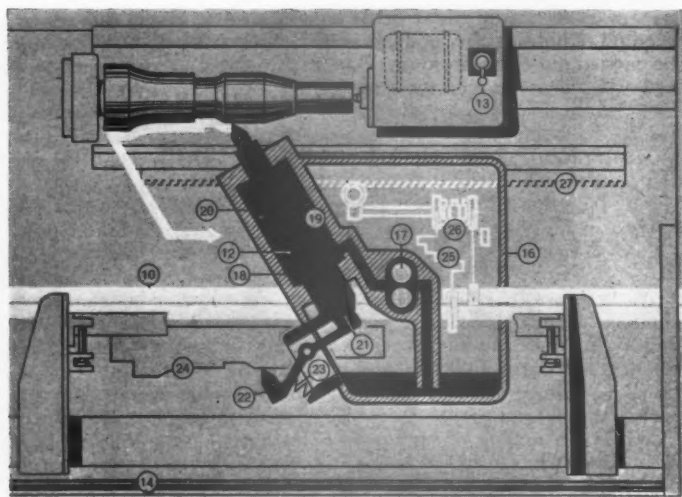

FIG. 17
An interesting example of such a machine is the lathe built in Switzerland by Messrs. George Fischer. Fig. 17 shows the principle on which the machine operates. The oil sump, tracer, etc., in this case are all built into the carriage so that there are no external projections of piping and other obstructions. A gear pump (17) delivers oil into the ram chamber (19) from where it flows through the port at the top and down the central gateway. The tracer finger (22) is hinged at the centre and carries at its opposite end a valve (21). The compression spring (23) normally keeps the valve (21) open so that the oil in the chamber flows back into the sump, completing the circle. If, however, the tracer is brought into contact with the master, this tends to close the valve (21), thus restricting the oil flow from the ram. As the pump delivers against a fixed head, the amount of oil in the chamber increases, thus forcing the tool slide to move outward against the shaft being machined.